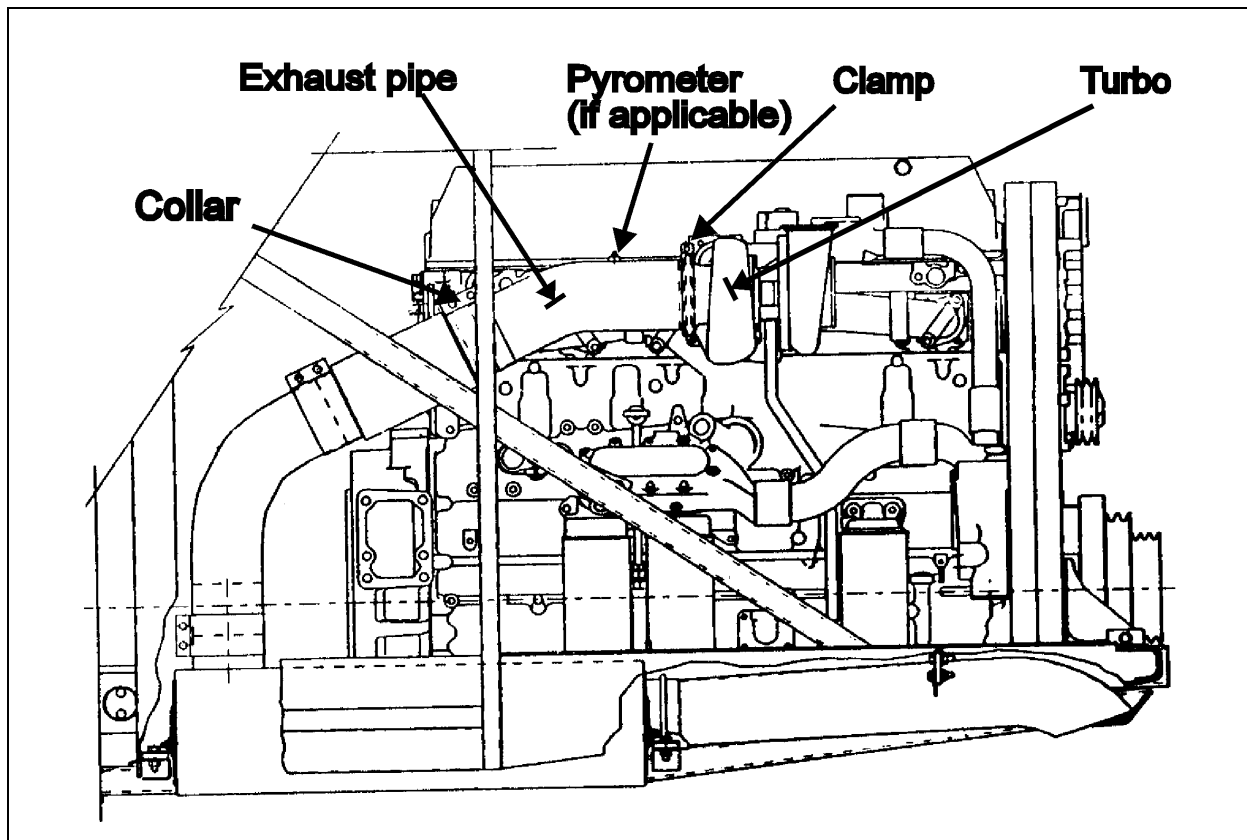

FIGURE 1
2. Identify the first part of the exhaust pipe beside the turbo engine (Fig. 1).
3. Unscrew the clamp and the collar (Fig. 1).